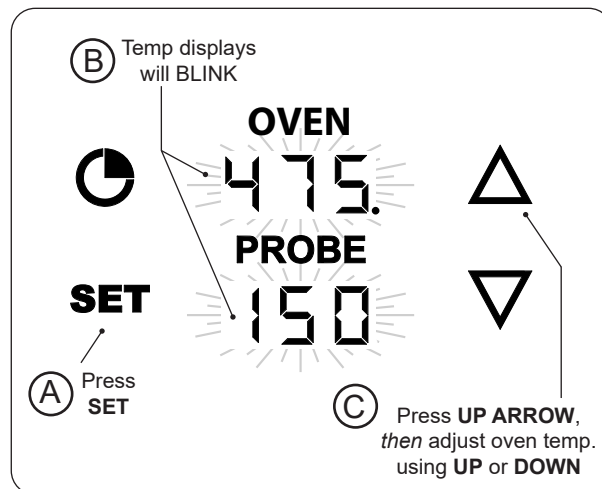

Fig. 39-1 Set grilling temp.
1. With the thermometer **on**, press the **SET** button once. The **OVEN** and **PROBE** displays will blink. (While blinking, either area can be selected to enter their settings.) See Fig. 39-1, A and B.
2. Press the **UP ARROW** to select the oven temp settings, then use the up or down arrows to set the desired temp. (Fig. 39-1, C).